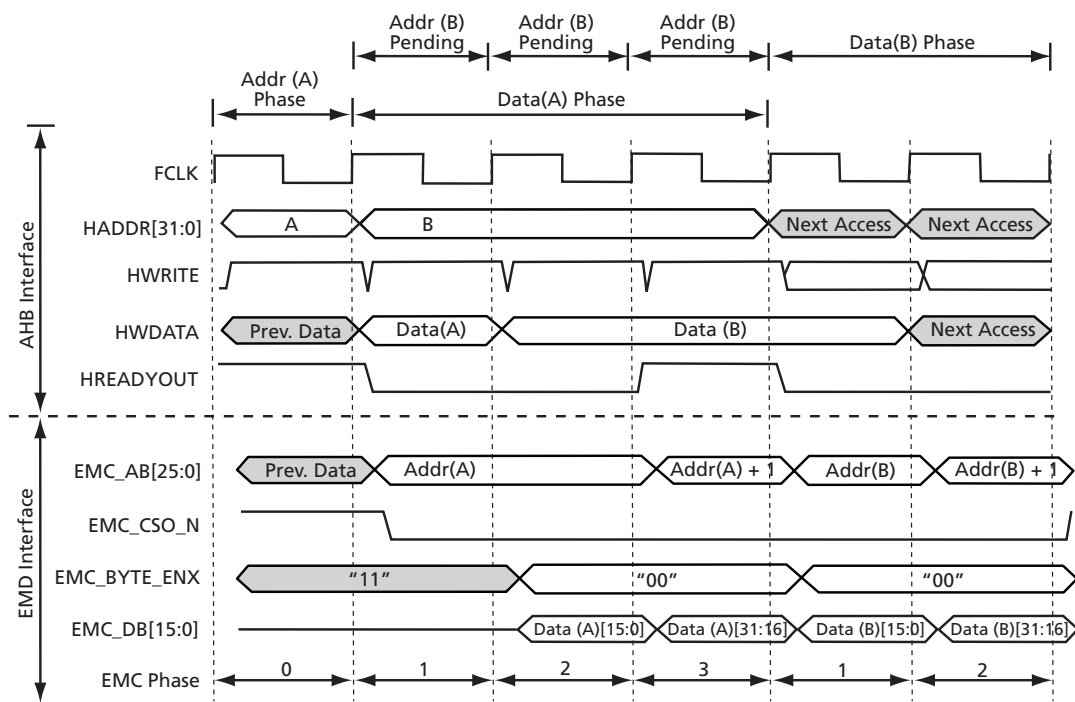

Figure 7-6 • Back to Back AHB Bus Transactions
When the EMC is not being accessed, it remains in phase 0 (idle). Figure 7-6 shows the AHB and EMC signals when back-to-back AHB transactions are received by the EMC.
- This occurs because for back-to-back transactions, the last FCLK cycle can overlap with the next AHB address cycle. The EMC phase does not return to the idle or 0 state between transactions, as shown in Figure 7-6.